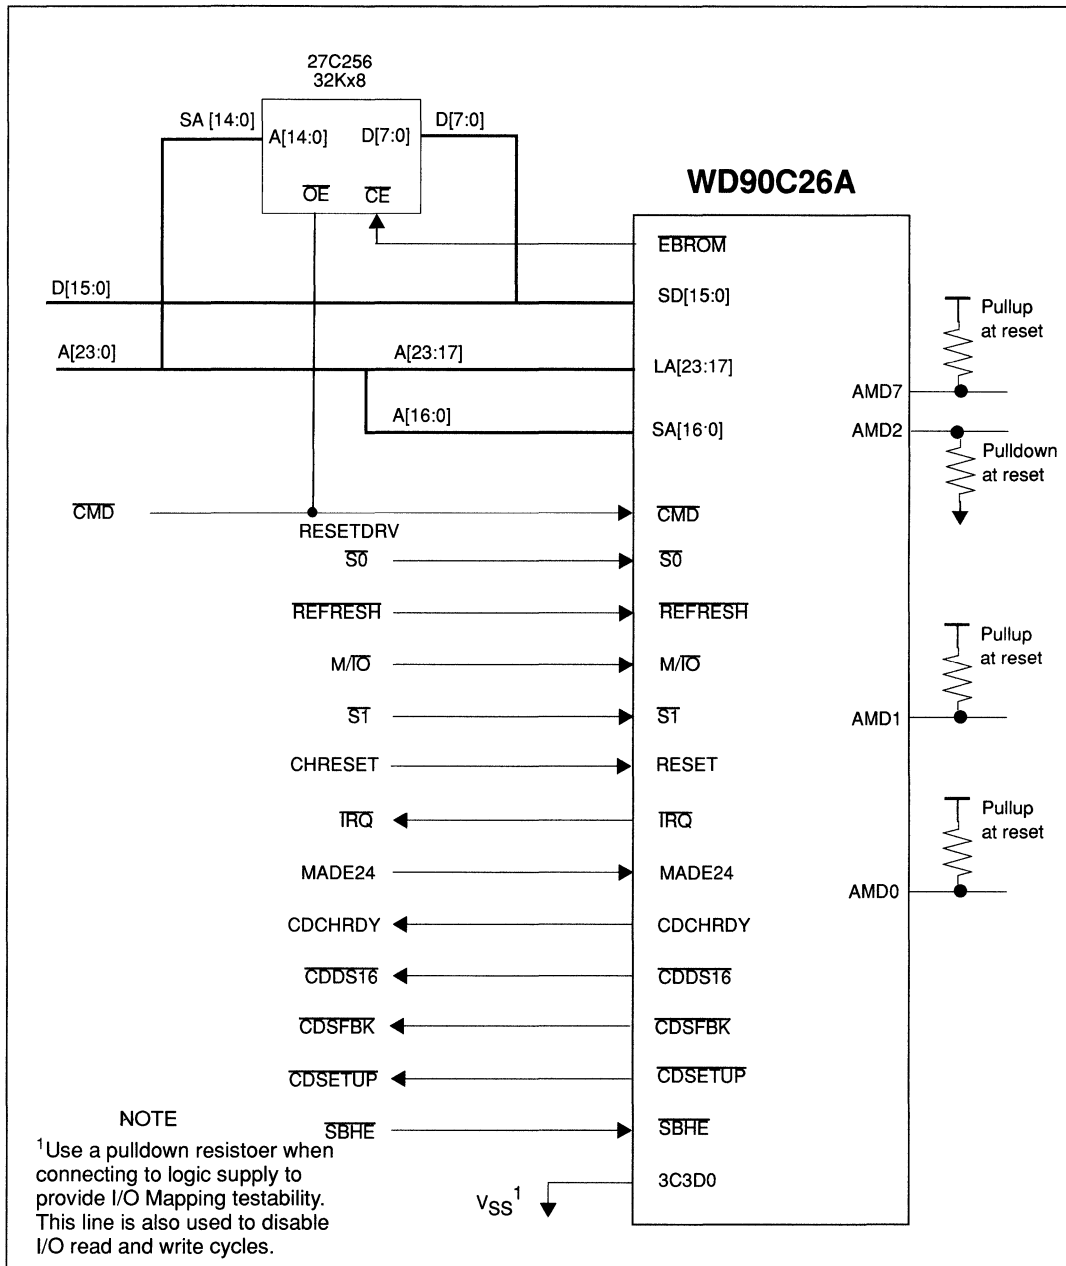

FIGURE 6-10 16-BIT MICROCHANNEL BUS INTERFACE
- 16-Bit MicroChannel Bus Interface with 8-Bit BIOS, Figure 6-10.
Figure 6-10 shows a typical MicroChannel Bus Interface and 8-bit BIOS ROM.